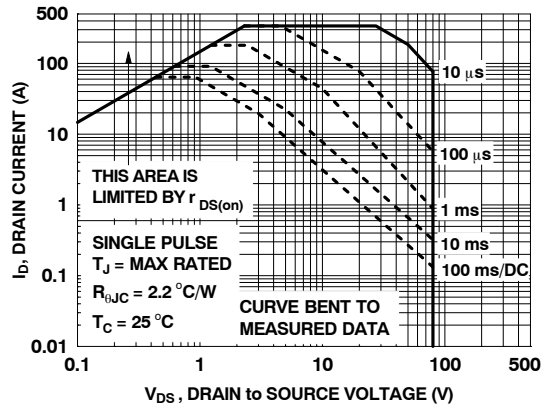

Figure 11. Forward Bias Safe Operating Area
4. Pulsed Id please refer to Figure 11 SOA graph for more details.